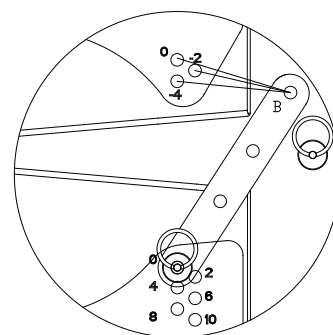

Figure 2 ($-2^{\circ} \sim -4^{\circ}$ adjustment)
2) $-2^{\circ} \sim -4^{\circ}$ adjustment: insert the pin into 0 hole at A, and insert into the relative hole at B (refer to figure 2), e.g. if you need to adjust to -2 degree, insert into 0 hole at A, and 2 degree hole at B.